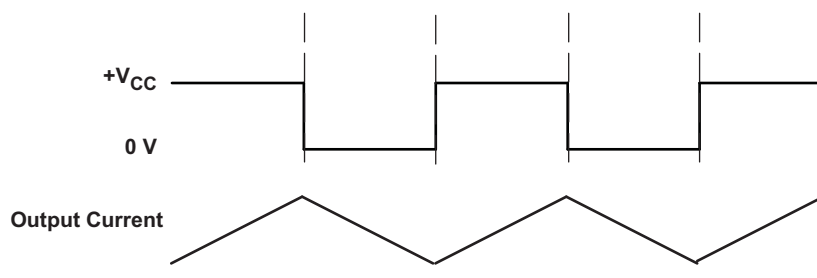
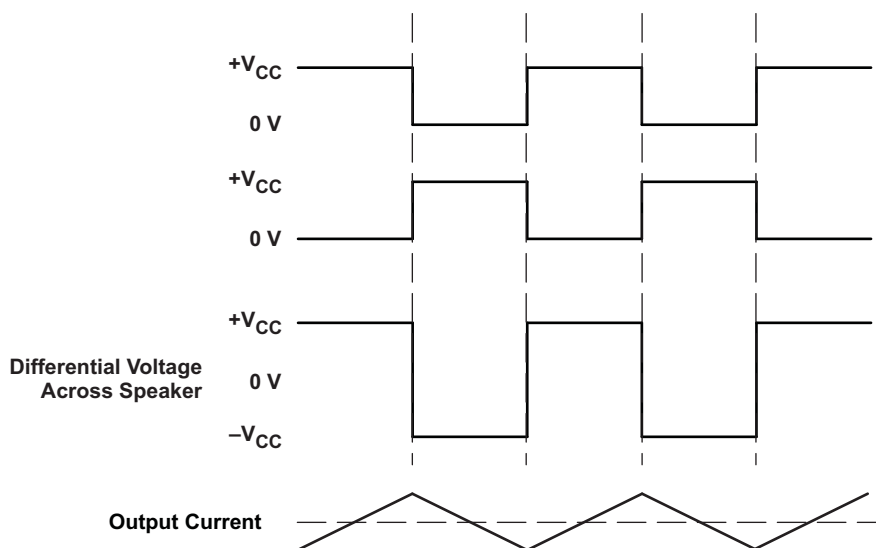

Figure 23. Class-D Modulation for TPA3120D2 SE Configuration
Figure 24. Class-D Modulation for TPA3120D2 BTL Configuration
The TPA3120D2 operates in AD mode. There are two main configurations that may be used. For stereo operation, the TPA3120D2 should be configured in a single-ended (SE) half-bridge amplifier. For mono applications, TPA3120D2 may be used as a bridge-tied-load (BTL) amplifier. The traditional class-D modulation scheme, which is used in the TPA3120D2 BTL configuration, has a differential output where each output is 180 degrees out of phase and changes from ground to the supply voltage, V_{CC} . Therefore, the differential prefiltered output varies between positive and negative V_{CC} , where filtered 50% duty cycle yields 0 V across the load. The class-D modulation scheme with voltage and current waveforms is shown in Figure 23 and Figure 24.